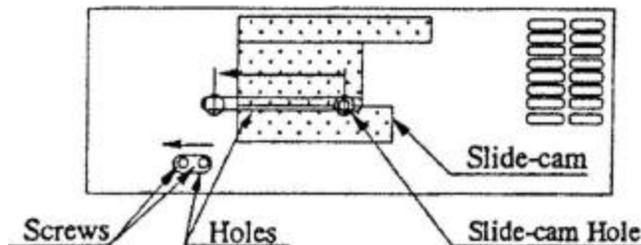

Figure 4-3. Right View
1. Loosen the screws (not remove) and slide to the left, see Figure 4-3.